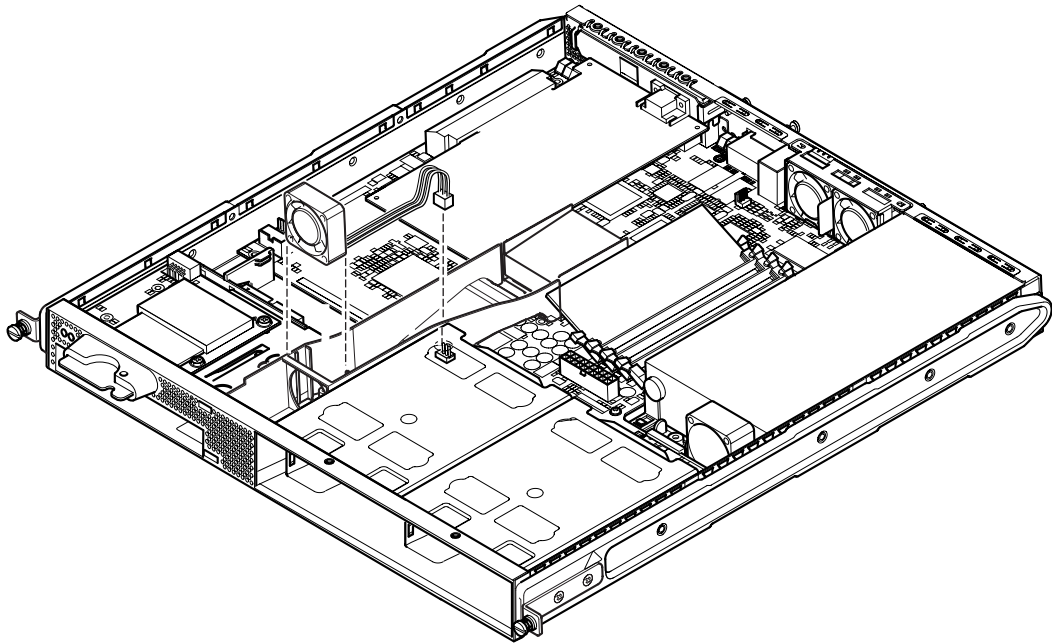

FIGURE 11-11 Disconnecting the Power Cable for Fan 3 and Lifting the Fan Out
2. **With the server open and seated on top of a grounded ESD pad, and with a properly grounded antistatic wrist strap on your wrist, disconnect Fan 3’s power cable (see FIGURE 11-11).**